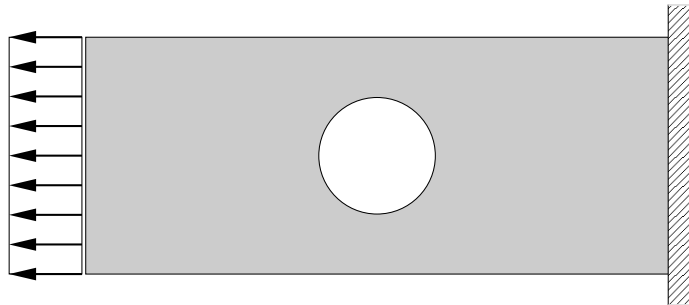

Figure 1: Plate with a hole
1. Consider the steel plate depicted in figure 1. The dimensions are $400 \times 100 \times 10\text{mm}$, the hole with $\varnothing = 50\text{mm}$ is located at the center. The applied stress is $\sigma_0 = 100\text{N/mm}^2$. Modell the plate as a 2D plane stress problem in femlab.